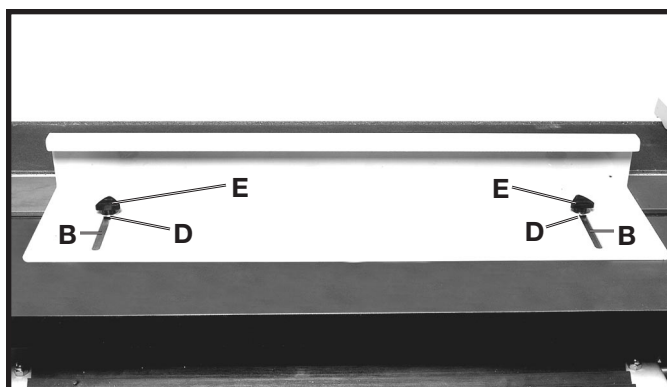

Fig. 30
3. Place a 5/16" flat washer (D) Fig. 30, on the fence knob (E).
4. Insert knob through slot (B) Fig. 30, and thread knob into tapped hole in table and tighten securely. Repeat this process for the remaining fence knob.